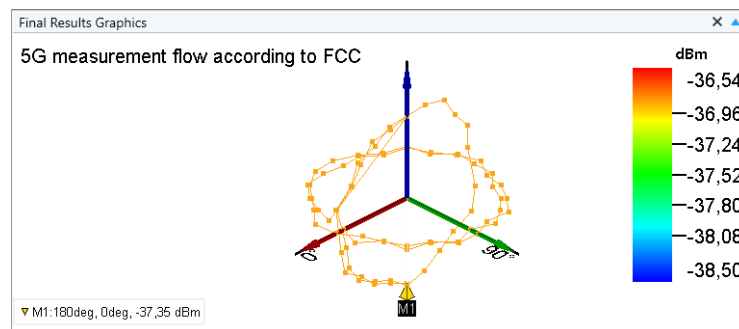

Figure 4-65: Example of test result graphics during a 5G measurement flow according to FCC
- A TRP measurement in the final measurement step, consisting of 3 spherical cuts as in Figure 4-65